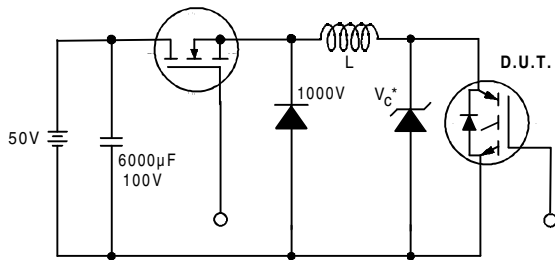

Figure 19. Clamped Inductive Load Test Circuit
- ② $V_{CC}=80\%(V_{CES})$, $V_{GE}=20V$, $L=10\mu H$, $R_G=10\Omega$ (figure 19)
- ③ Pulse width $\leq 80\mu s$; duty factor $\leq 0.1\%$.
- ④ Pulse width $5.0\mu s$, single shot.